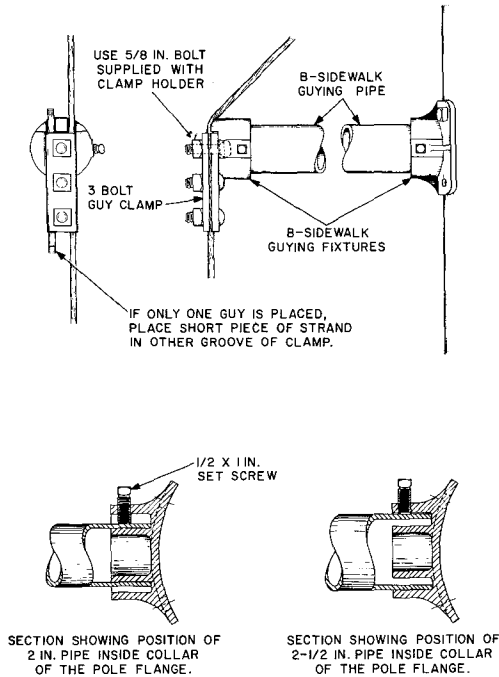

Fig. 3—Pipe Installation
3.03 Figure 3 shows the pipe installation details.